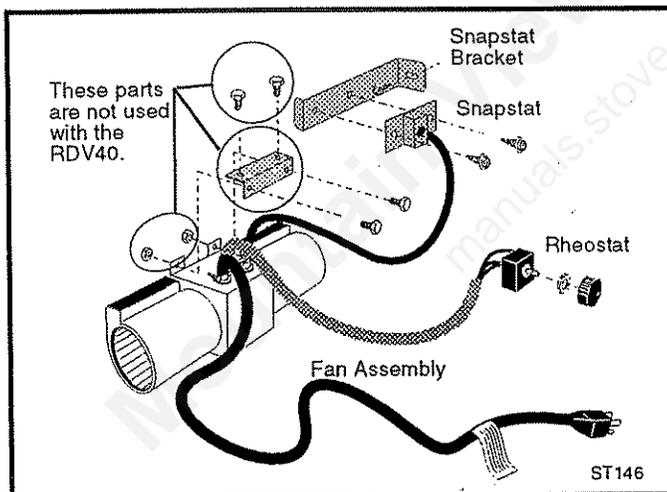

Fig. 18 Fan Kit #2767 components.
Contents: (Fig. 18)
4. **Attach the snapstat to the snapstat bracket.** Use two sheet metal screws and one #8 star washer. (Fig. 18)